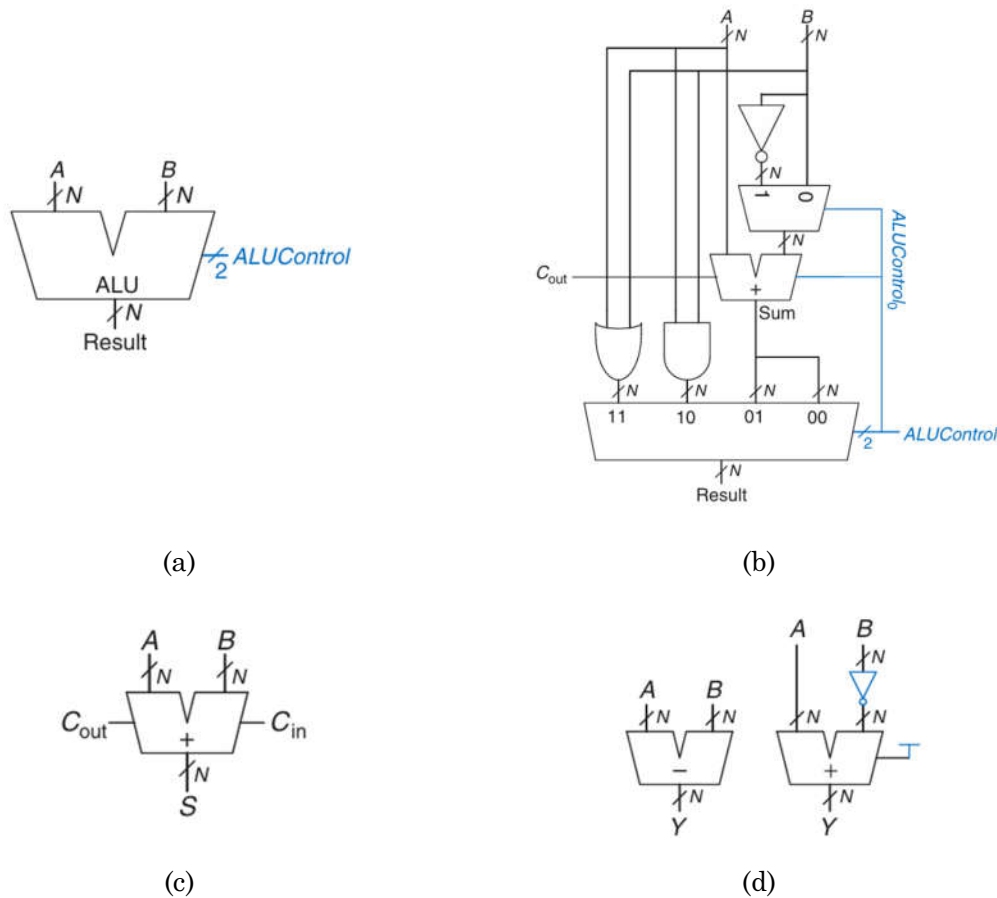

Figure 2 (a) ALU symbol (b) N-bit ALU (c) Carry Propagate Adder (d) Subtractor: symbol, and implementation.
➤ **First**, a typical ALU might perform addition, subtraction, AND, and OR operations. ALU forms the heart of most computer systems. For instance, **figure 2(a)** shows a symbol for an N-bit ALU with N-bit inputs and outputs.
- **Figure 2(b)** shows an implementation of the ALU which contains:
- According to table 2 presenting operations ALU N-bit in **Figure 2(b)**:
- Overflow detection, as shown on the left side of **Figure 2(b)**, occurs when the addition of two same signed numbers produces a result with the opposite sign.
- (1) the ALU is performing addition or subtraction ($ALUControl[1] = 0$).
- (2) A and Sum have opposite signs, as detected by the XOR gate.
- (3) overflow is possible.